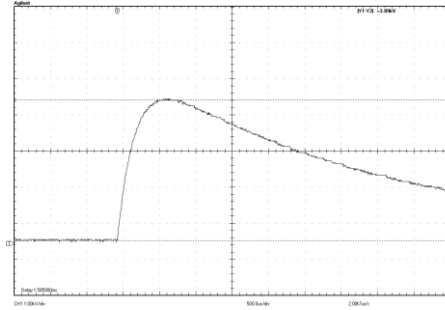

Figure 6. $V_{peak} = 3.90kV$ with 25mH inductor
- b. V_{peak} about 3.90KV, see figure 6 (When inductor selected is 25mH).